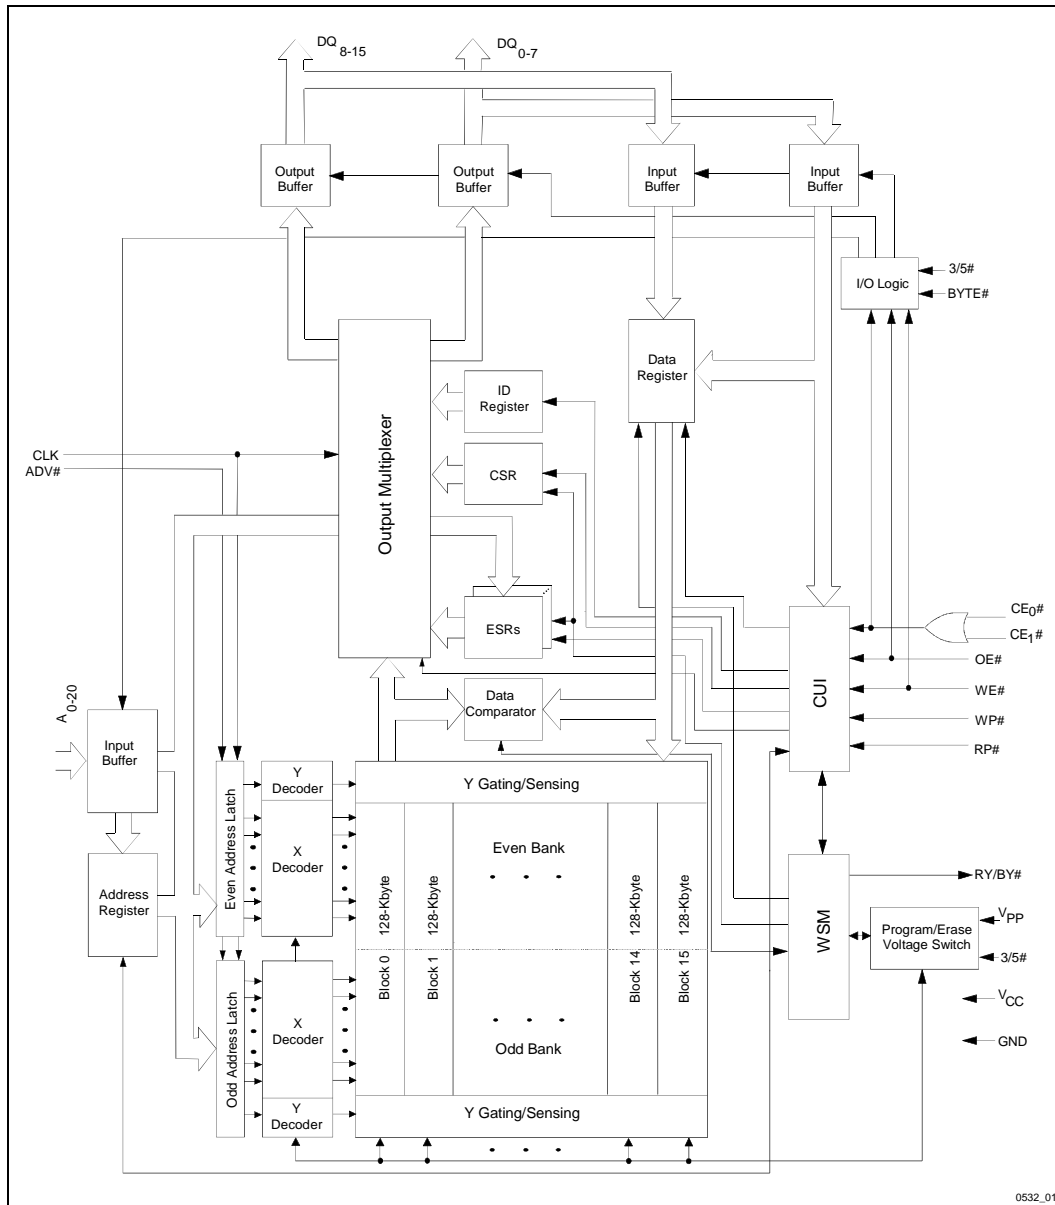

Figure 1. 28F016XS Block Diagram
-003	<p>Added 3/5# pin to Pinout Configuration (Figure 2), Product Overview (Section 1.1) and Lead Descriptions (Section 2.1)</p> <p>Modified Block Diagram (Figure 1): Removed Address Counter; Added 3/5# pin</p> <p>Added 3/5# pin to Test Conditions of I_{CCS} Specifications</p> <p>Added 3/5# pin (Y) to Timing Nomenclature (Section 5.6)</p> <p>Removed Note 7 of Section 5.7</p> <p>Modified Device Configuration Code: Incorporated RY/BY# Configuration (Level Mode support ONLY)</p> <p>Modified Power-Up and Reset Timings (Section 5.10) to include 3/5# pin: Removed t_{5VPH} and t_{3VPH} specifications; Added t_{PLYL}, t_{PLYH}, t_{YLPH}, and t_{YHPH} specifications</p> <p>Added SSOP pinout (Figure 2) and Mechanical Specifications</p> <p>Corrected TSOP Mechanical Specification A1 from 0.50 mm to 0.050 mm (Section 6.0)</p> <p>Minor cosmetic changes throughout document.</p>
The BYTE# pin allows either x8 or x16 read/programs to the 28F016XS. BYTE# at logic low selects 8-bit mode with address A₀ selecting between low byte and high byte. On the other hand, BYTE# at logic high enables 16-bit operation with address A₁ becoming the lowest order address and address A₀ is not used (don't care). A device block diagram is shown in Figure 1.